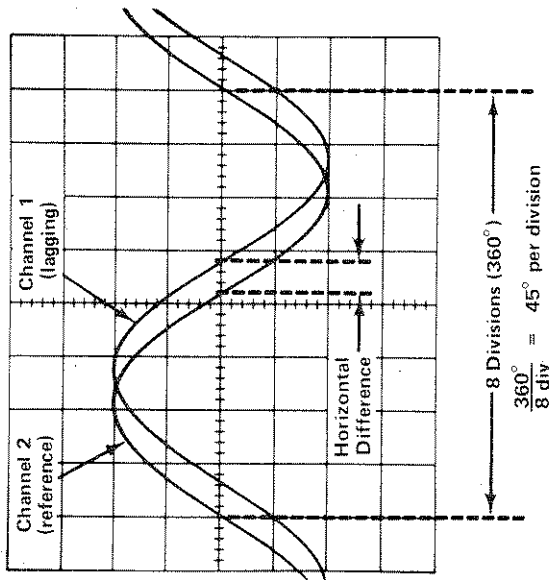

Fig. 4. Measuring phase difference.
Since a complete cycle of a sinusoidal waveform represents 360°, the oscilloscope graticule can be calibrated in degrees/division by using the SEC/DIV switch and the HORIZ MAG. Adjust the span of a reference waveform so that one cycle covers a given number of divisions. (Figure 4
- d. Turn the HORIZ MAG control until one cycle of the reference signal (CH 2) occupies exactly 8 divisions horizontally. (See Fig. 4.) Each division now represents 45° of the displayed 360° (eight divisions).